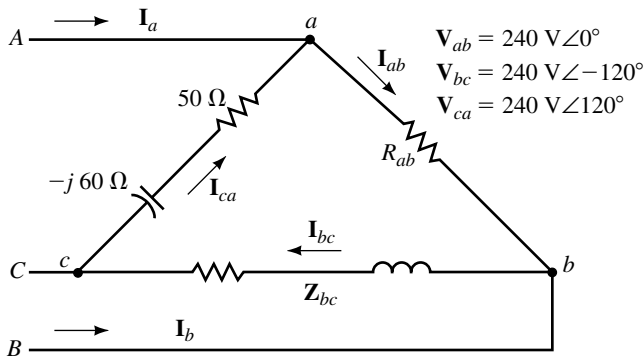

FIGURE 23-56
53. For Figure 23-56, $R_{ab} = 60$ Ω , $Z_{bc} = 80$ $\Omega + j60$ Ω . Compute